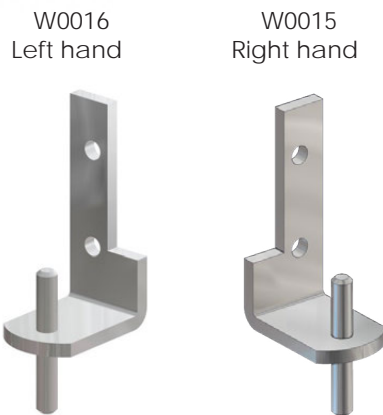
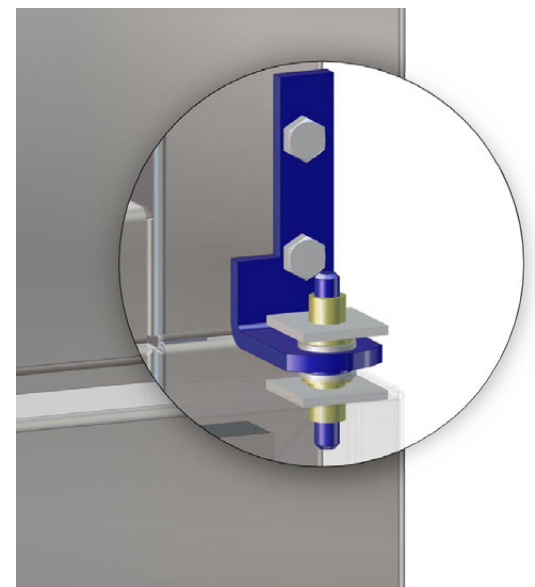

Fig. 61: Intermediate Door Hinge
Fig. 62: Intermediate Door Hinge in Place
**Note:** For warming cabinets with more than one door, an intermediate hinge (Fig. 61) fits between the bottom of the top door and the top of the bottom door of the dual chambered warming cabinet (shown in blue in Fig. 62). (Middle doors on Triple chamber warming cabinets use only intermediate hinges for both top and bottom.)